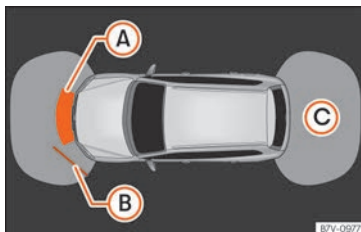
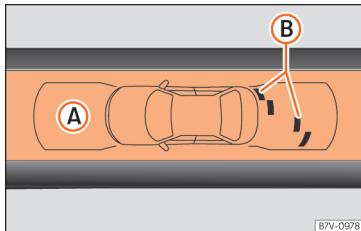

Fig. 270 On-screen OPS display: **A** has detected an obstacle in the collision zone; **B** has detected an obstacle in the segment; **C** zone recorded behind the vehicle.
Fig. 271 On-screen OPS display: **A** area recorded in front of the vehicle; **B** an obstacle has been detected in the segment.
The image displayed represents the superimposed zones in several segments. As the vehicle approaches an obstacle, it approaches the displayed vehicle segment » » » Fig. 270 (B) and » » » Fig. 271 (B). Ultimately, when the second-to-last segment is shown, the collision area has been reached. **Stop the vehicle!**